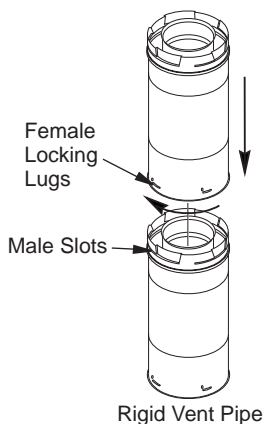

Figure 17 - Vent Pipe Connections
Twist-lock Procedure: Female ends of pipes and fittings have four locking lugs (indentations). These lugs will slide straight into matching slots on male ends of adjacent pipes and fittings. Push pipe sections together and twist one section clockwise approximately one-quarter turn until sections are fully locked. See Figure 17. *Note: Horizontal runs of vent must be supported every three feet. Use wall straps for this purpose.*
2. Assemble desired lengths of pipe and elbows necessary to reach from fireplace flue up through firestop. Be sure all pipe and elbow connections are fully twist-locked (see Figure 17, page 13).